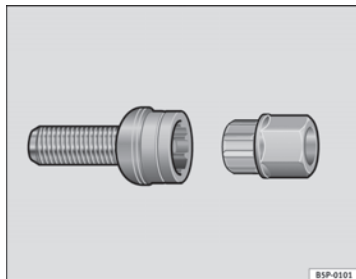

Fig.176 Anti-theft wheel bolt
- Insert the adapter onto the wheel bolt and push it on as far as it will go ⇒ fig. 176.